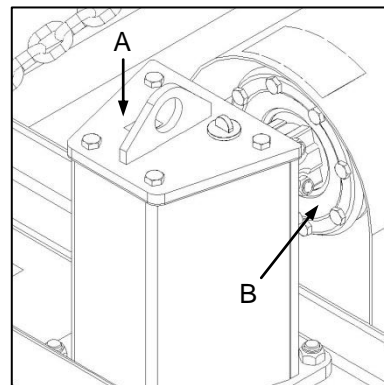

Fig. 6
- ✔ Discolouration or blistering of painted surfaces of the friction clutch housing (Fig. 6-B).
- ✔ The friction clutch housing feels significantly hotter than the surface of the gearbox casing (Fig. 6-A).
- ✔ Verkleuring of blaasvorming van geverfde oppervlakke van die wrywingkoppelaarmhulsel (Fig. 6-B).
- ✔ Die wrywingkoppelaarmhulsel voel beduidend warmer as die ratkasomhulsel (Fig. 6-A).